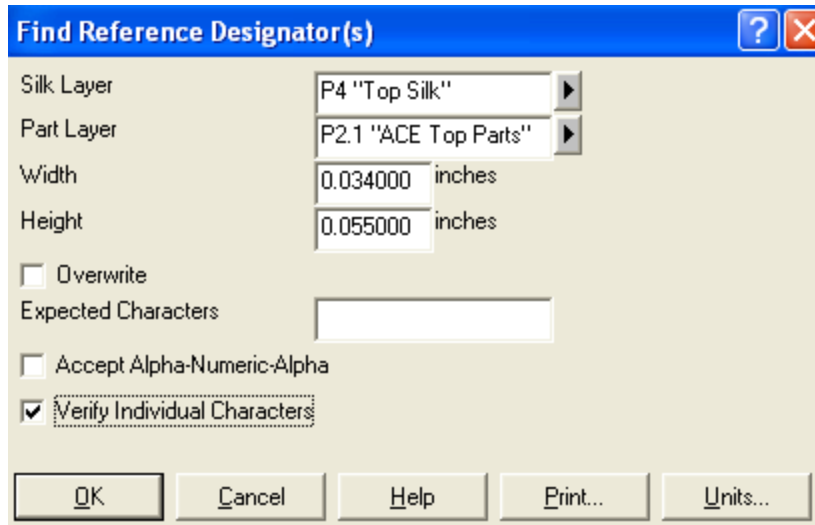

Figure 42
5. Check mark the “Verify Individual Characters” option in order to increase accuracy and press OK. The Save prompt will be presented – See Figure 42: